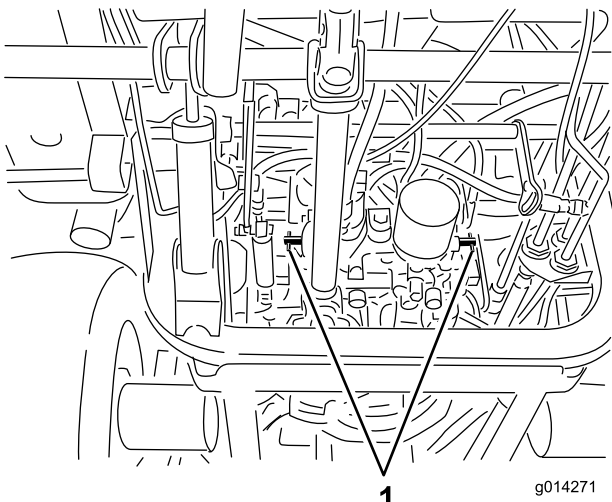

Figure 34
4. Rotate each by-pass valve counterclockwise 1 turn (Figure 34).
Rotate each by-pass valve clockwise 1 turn and hand tighten them (torque of approximately 8 N-m [71 in-lb]) (Figure 34).